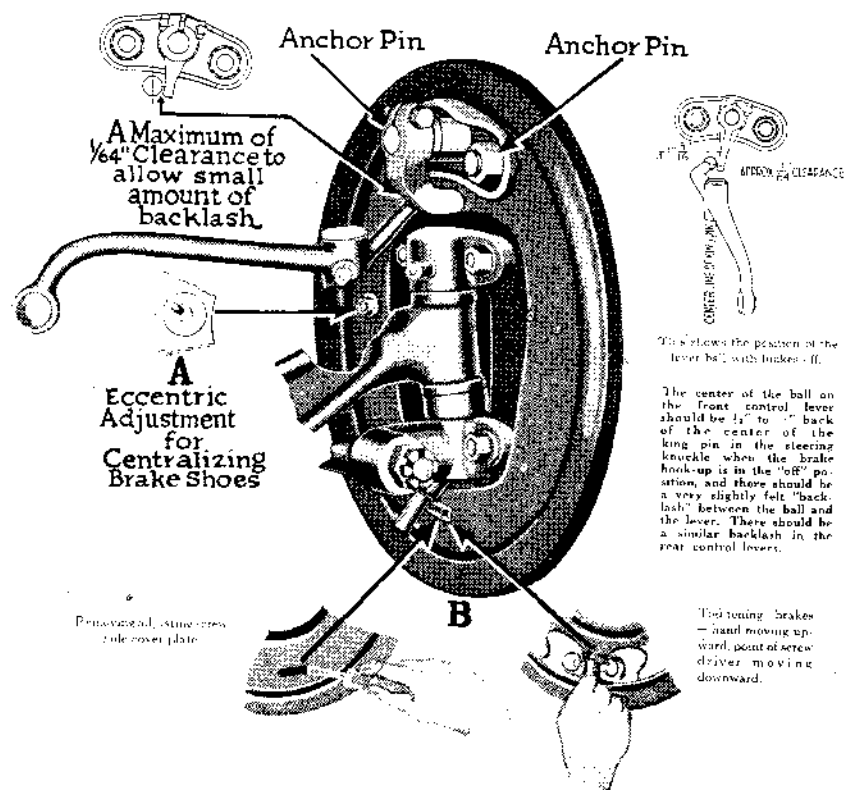

Fig. 9—Lever Control Assembly (Two Shoe Type)
Brake Adjustment—A. Loosen locknut on "eccentric adjustment." (This adjustment centralizes the shoes.) Turn eccentric in direction wheel revolves when car is moving forward, until a very slight brake drag can be felt when turning wheel over by hand. Still holding eccentric with wrench, tighten locknut slightly to hold eccentric in this temporary position. Make this adjustment at each of the four wheels. (Fig. 9 and 11.)
toward the rim of the backing plate, until the two shoes are expanded against the brake drum sufficiently to cause enough brake drag so that the wheel can just be pulled over with one hand. Make this adjustment on each of the four wheels, and make sure that the adjustment is alike on all four wheels. (Fig. 9 and 11.)
C. Adjust the clearance of the shoes by turning back the adjusting screw wheel (in the reverse direction from which you turned it in "B") until only a slight brake drag remains in the turning of the wheel by one hand. Make this adjustment at each of the four wheels. (Fig. 9 and 11.)
D. Centralize the brake shoes in the drum by loosening the locknut on the eccentric adjustment, and turn eccentric slowly back in opposite direction to which the wheel revolves when the car is moving forward, until the wheel is in the freest position as regards brake drag. Holding eccentric firmly in this position, tighten locknut. Make this adjustment at each of the four wheels. (Fig. 9 and 11.)
suitable means to hold the pedal in this fixed depressed position. Try the brake holding effect by pulling wheels over by hand. The two front wheels should be alike. If not, then turn (loosen—not tighten) the notched adjusting screw wheel on the tighter wheel until the brake drag is the same on both wheels. Balance the two rear wheels with each other in the same manner. Then replace the adjusting screw hole cover plate, remove pedal jack, and let car down off car jacks. (Fig. 9 and 11.)
(1) With car jacked up at all four wheels check to insure free operation of hook-up and free return of cross shaft and pedal to their respective stops, and to be sure that there is a slight backlash in both front and rear control levers. (Fig. 9 and 11.)
(2) Follow instructions as given in "A" on page 24.